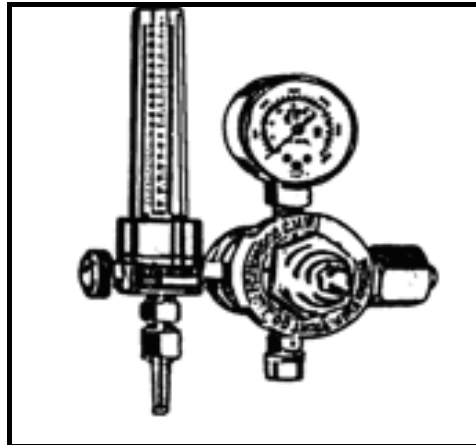

FIGURE 1.2
1.3 Identify the type of equipment shown in FIGURE 1.2.